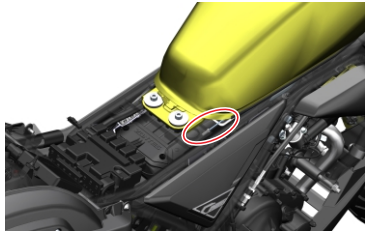

Figure 2
2. Remove the connector between the electronic fuel tank lock protection plate and the cable (Figure 2).